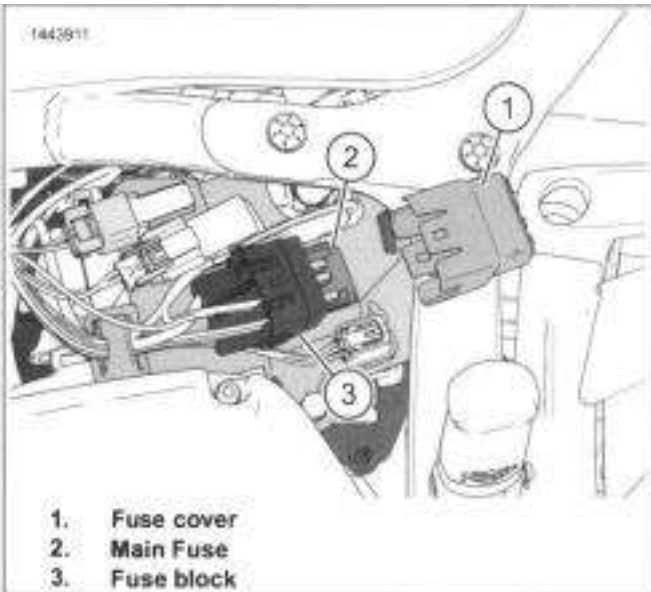
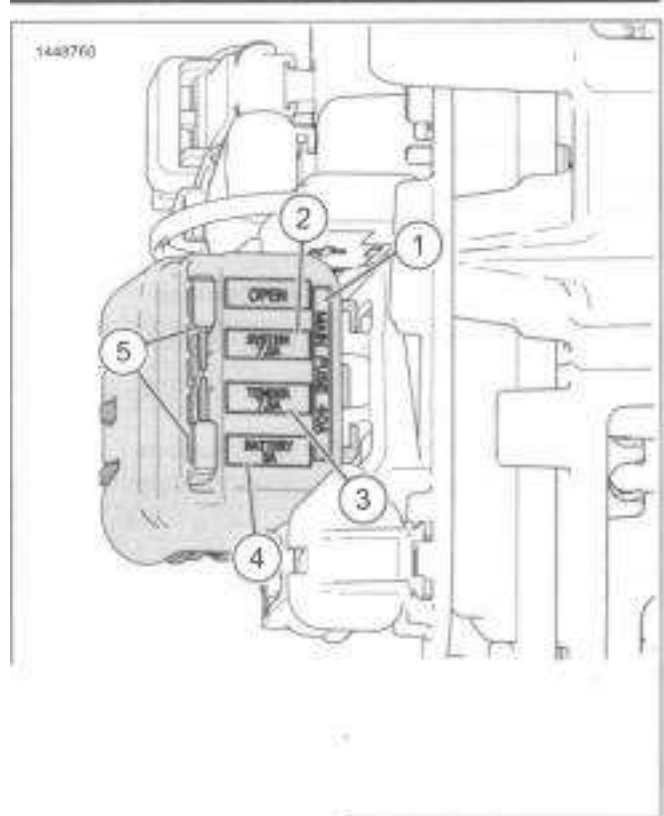

Figure 7-1. Fuse Block
Figure 7-2. Fuses
1. See Figure 7-1. Remove fuse block (3) from ECM sub caddy.
2. Remove fuse cover (1).
3. See Figure 7-2. Remove required fuse.
See Figure 7-2 for proper amperage rating.
1. See Figure 7-2. Install required fuse.
2. See Figure 7-1. Install primary fuse cover (1).
3. Install fuse block (3) onto ECM sub caddy.